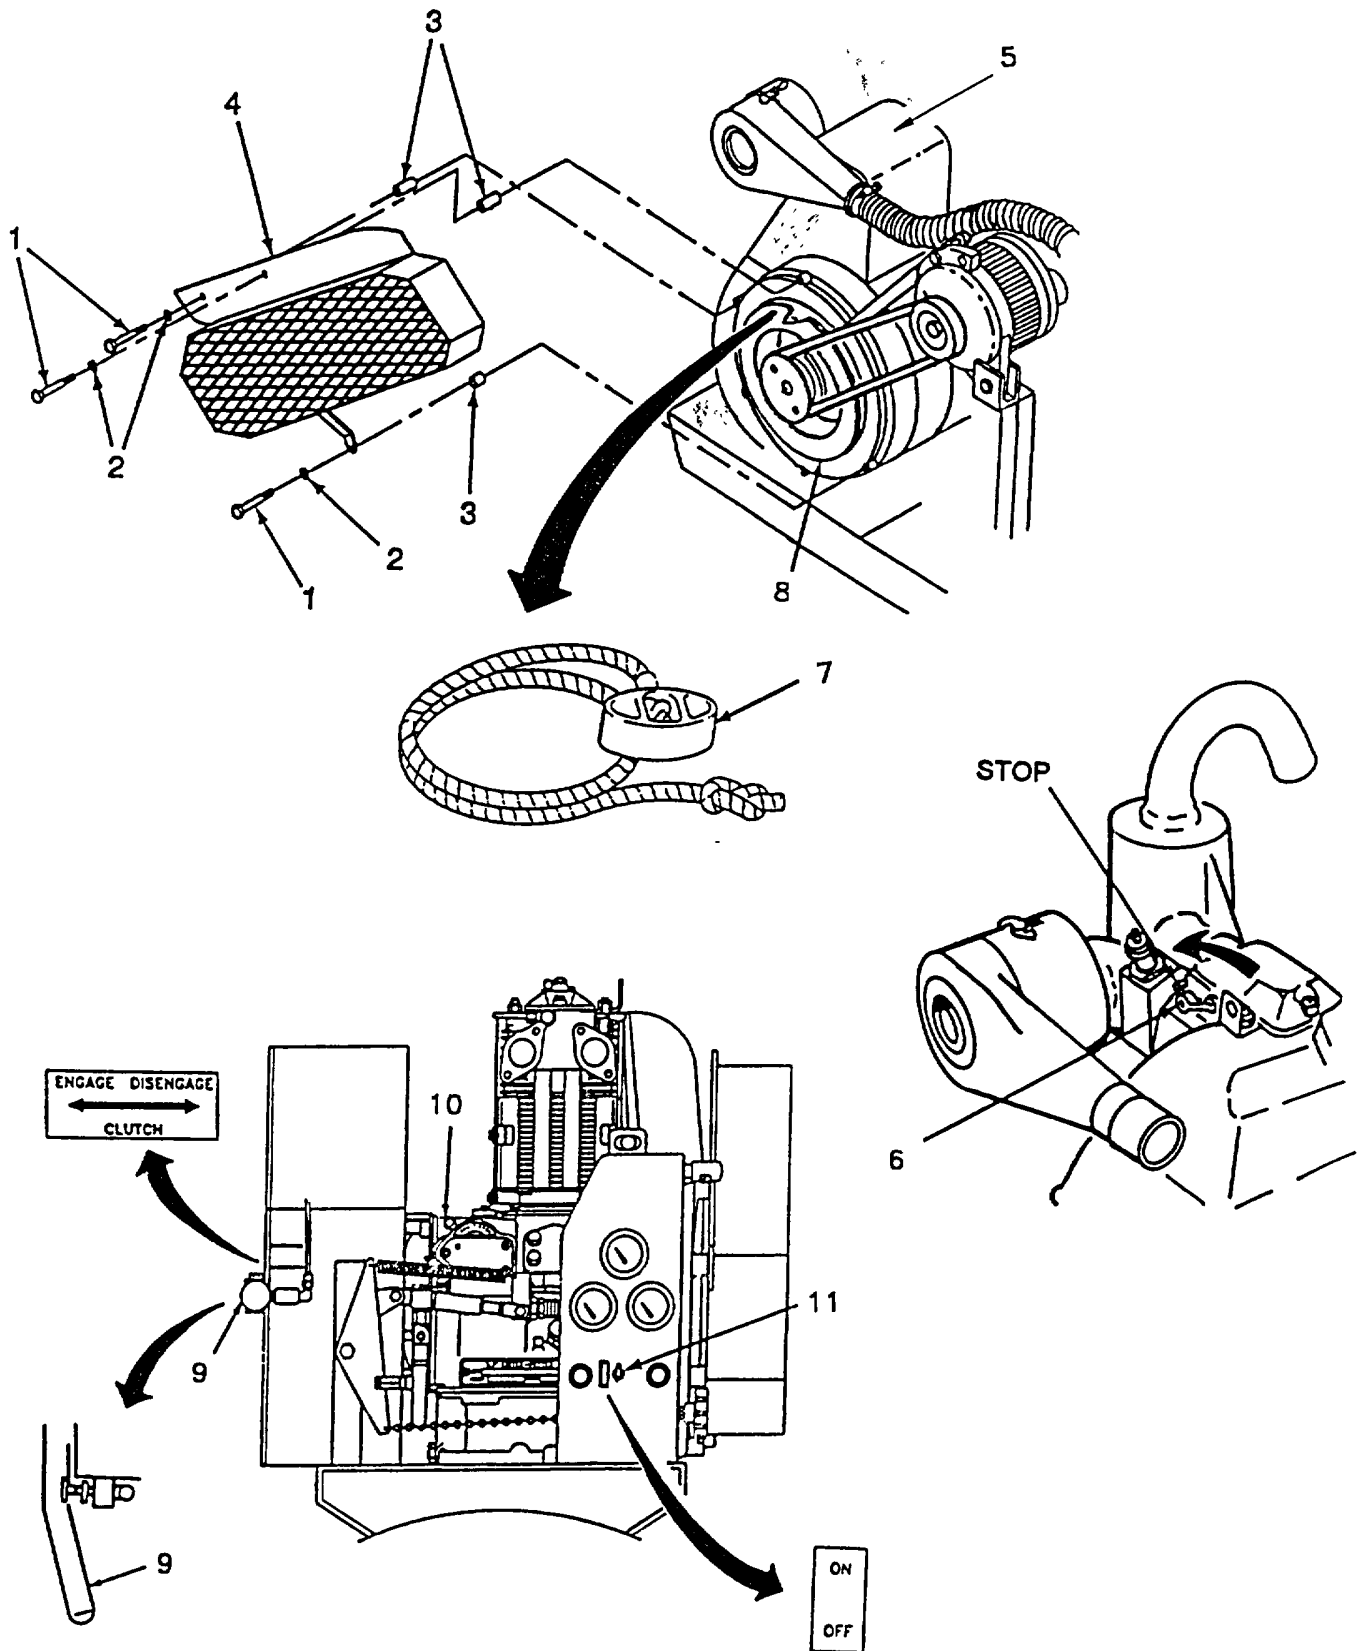

Figure 2-27. Starting The Engine With Rope Starter
d. STARTING THE ENGINE WITH ROPE STARTER (Refer to Figure 2-27).